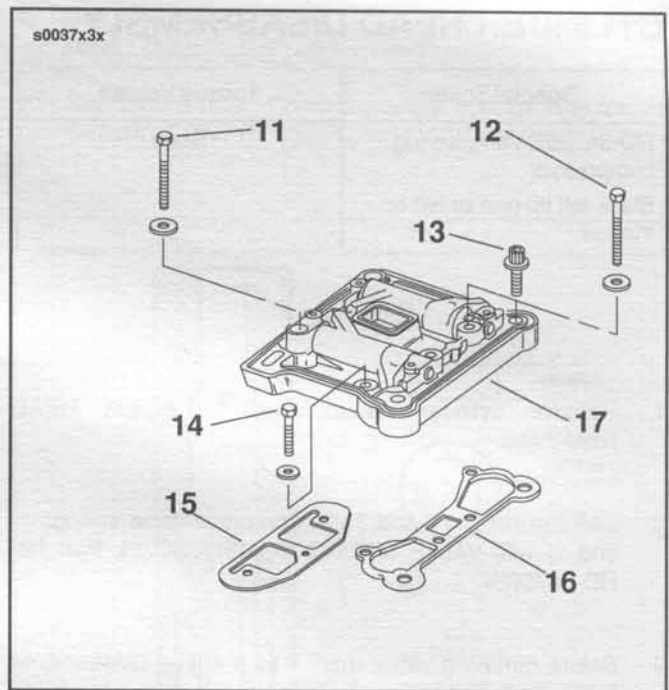

Figure 3-19. Lower Rocker Cover Assembly
6. See Figure 3-19. Install push rods. Install gaskets (15, 16). Place lower rocker cover assembly (17) (with rocker arms and shafts) in position on cylinder head.
7. Install screws and washers (11, 12, 13, and 14). Slowly snug lower rocker box fasteners in small increments (one at a time) in a cross pattern. This will bleed the lifters. Tighten the 5/16 in. screws (11, 12) to 15-19 ft-lbs (20-26 Nm). Tighten the 1/4 in. screws (13) to 90-120 in-lbs (10-13 Nm), and tighten the 1/4 in. screws (14) to 10-14 ft-lbs (14-19 Nm).